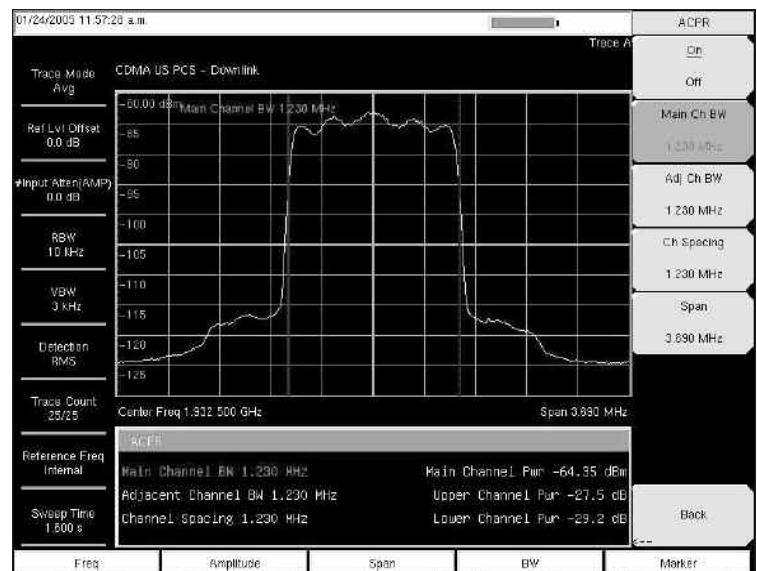

Figure 5. Adjacent Channel Power Ratio
**Adjacent Channel Power Ratio** – gives data on cleanliness of the output of a transmitter. This automatic measurement gives the power in the channels immediately above and below the channel to which the instrument is tuned. If you suspect that broad band noise from a nearby transmitter is causing interference problems, this measurement could be used to quantify the quality of the transmitted signal. Basically this measurement shows if intermodulation products are being created in a transmitter. For complex modulation formats such as the CDMA signal shown here, this test has replaced the older two-tone intermodulation test used to test AM and FM transmitters. See Figure 5 for an example of this measurement.